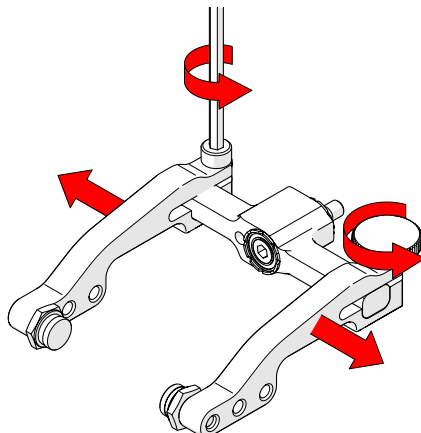

Fig. 184 - Remove arms
2. Loosen the probe holder arm adjustment knob and arm clamp screw. Slide the arms from the yoke (*Fig. 184*).